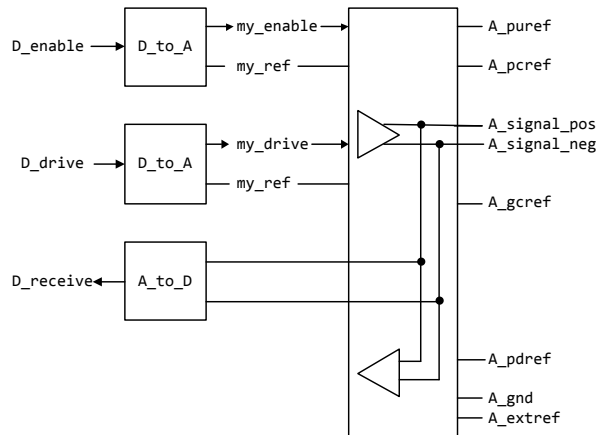

Figure 28 - Example SPICE, IBIS-ISS, Verilog-A(MS) or VHDL-A(MS) Implementation of a True Differential Buffer
The D_to_A or A_to_D adapters used for SPICE, IBIS-ISS, Verilog-A(MS) or VHDL-A(MS) files may be set up to control or respond to true differential ports. An example is shown in Figure 28.